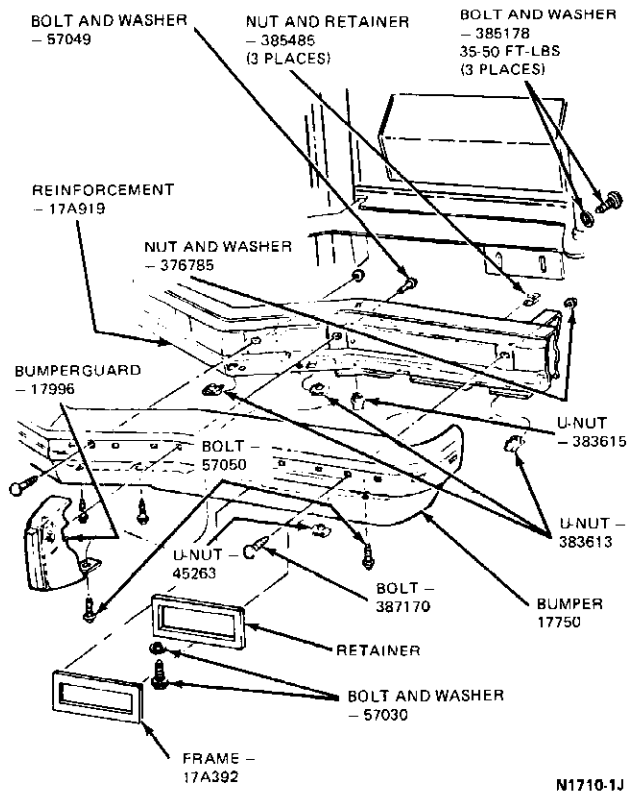

FIG. 2 Front Bumper Installation—Continental Mark V
1. Remove three bolts attaching each isolator to the reinforcement assembly (Fig. 2). Remove the bumper and reinforcement assembly from the vehicle.
1. Position the reinforcement to the bumper and install the attaching bolts. Tighten the fasteners to 25-38 ft-lbs torque. Install opening shield and license plate mounting bracket. Install pads to bumper assembly (Fig. 2). Install bumper guards to bumper and tighten attaching bolts 25-38 ft-lbs. torque.